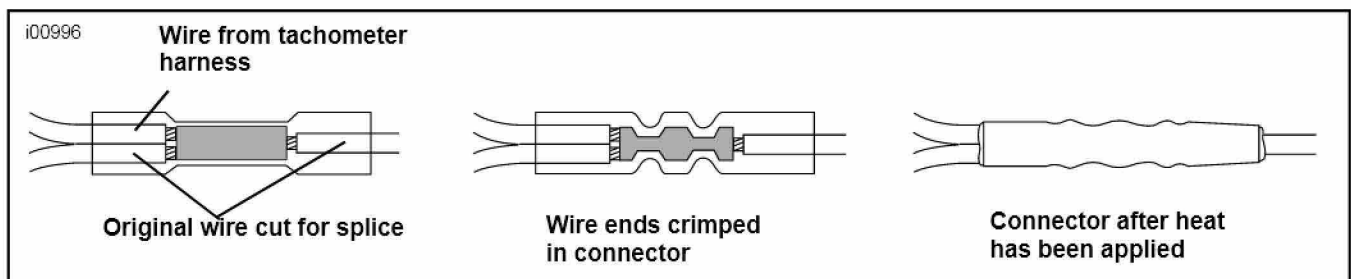

Figure 3. Splicing Tachometer Harness Wires Into Existing Wires
2. Splice 12 VDC (red) lead from mini-tach harness with orange/white wires as shown in Figure 3. Splice the ground (black) lead from the mini-tach harness with the black wires.
3. See Figure 3. Match the color of the butt splice connector with the color of the crimp cavity of the crimping tool. Using a H-D 38125-8 crimping tool, crimp the wires into the connector.